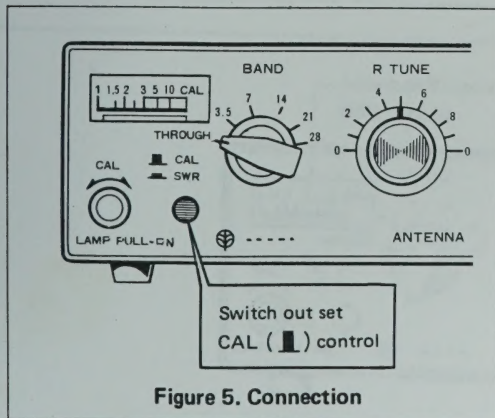

Figure 5. Connection
- Set the controls as shown in Figure 5. Set the BAND switch to the "THROUGH" position.